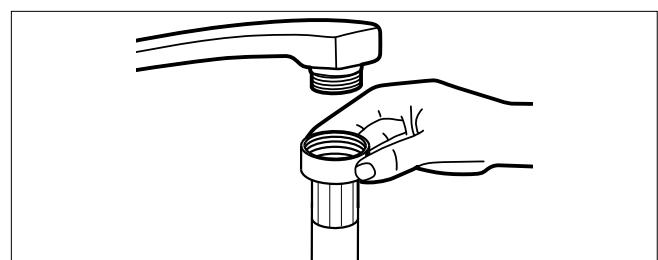

Fig. 9 – Connecting the water hose
- ▶ Connect the water supply hose (22) to a cold water tap with a 3/4" thread (see Fig. 9).